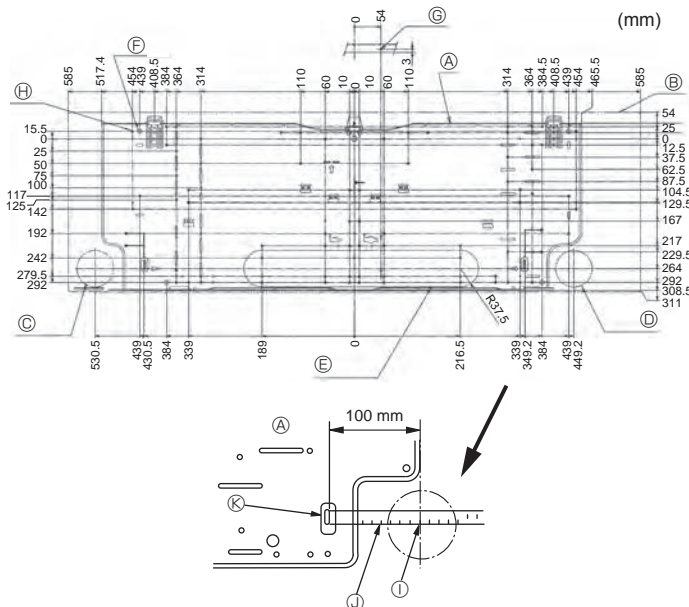

Fig. 3-2
①	Mount board	1	Fix at the back of the unit
②	Tapping screw 4 × 25	7
③	Felt tape	2
④	L-shaped connection pipe	1
⑤	Charge nut	1
⑥ *	Wireless remote controller	1
⑦ *	Remote controller holder	1
⑧ *	Alkali batteries (size AAA)	2
⑨ *	Tapping screw 3.5 × 16	2
⑩	Spacer	1	Make use of packaging material
3.2. Installing the wall mounting fixture (Fig. 3-2)